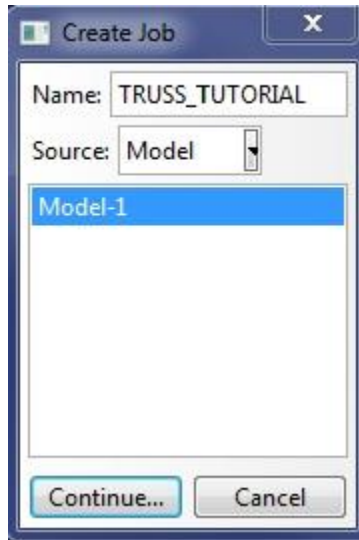

Figure 29. Create Job Dialog Box (TRUSS_TUTORIAL)
- To create a job for this model, double click the **Jobs** icon in the model tree. Up to this point, you have been preprocessing the model. A job will take the input file created by the preprocessor and process the model, i.e. perform the analysis. In the **Create Job** dialog box, create a **Name** for this job called **TRUSS_TUTORIAL**. Blank spaces are not allowed in a job name. Thus the use of the underline in the name. The Create Job dialog box should look identical to that in Figure 29.